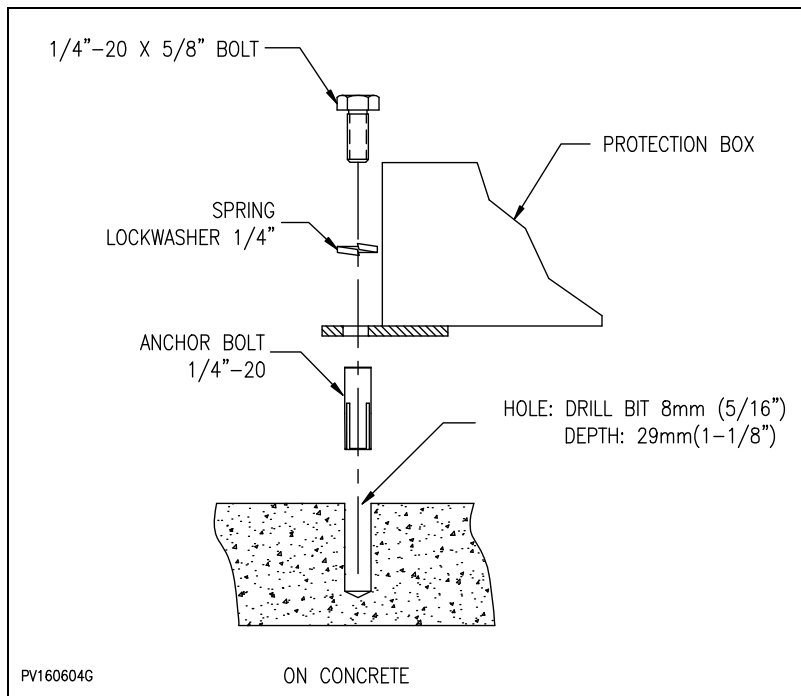

Figure 19 : Fastening the protection box on concrete
2. Fasten the metal protection box as shown (refer to *Figure 19 : "Fastening the protection box on concrete"*).